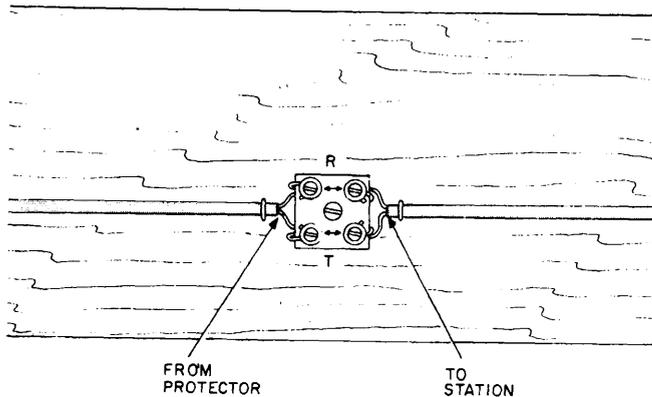
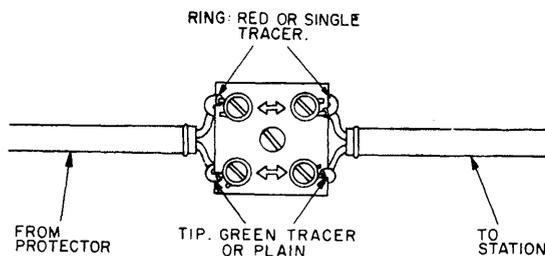

Figure 23. WECo Number 11A Connecting Block Used to Extend Station Wiring.
Figure 24. Detail of Wiring at WECo Number 11A Connecting Block.
7.01 WECO number 11 and 12 connecting blocks are used primarily to extend two-conductor and three-conductor station wiring, respectively, at locations in which no instrument is to be installed. Figure 23 shows a typical application and Figure 24 illustrates more closely the connections at a number 11A connecting block showing the manner in which the wires are passed through channels under the block and terminated on the far side to provide a means of holding them in place. Although the number 12 blocks have an eyelet molded in to provide for attachment of an S-hook or tie-cord strain relief, their use with line cords is not recommended because the spade terminals protrude beyond the block. The mounting holes are large enough to accommodate a number 10 screw.